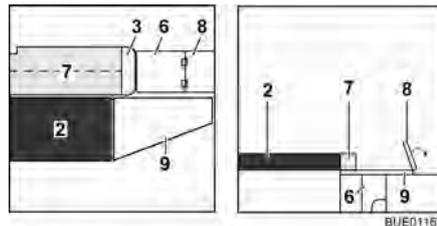

Fig. 119 During conversion
- Pull out the bedding box extension (Fig. 119,6).
- Fold the seat base extension (Fig. 119,8) outwards.
- Unfold the additional cushion (Fig. 119,7) and lay it on the table.
- Hook the bed widening (Fig. 119,9) into the recesses on the bench seats.